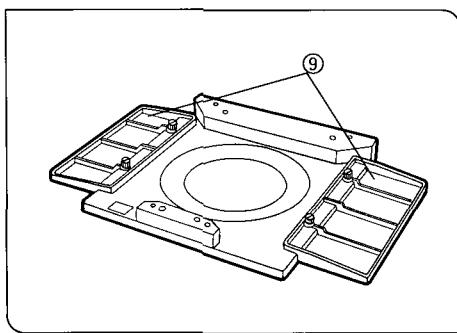

Fig. 16
- ◎ When the mechanical stage is not used, a stage extender plate (9) can be mounted at both sides of the plain stage. (Fig. 16)